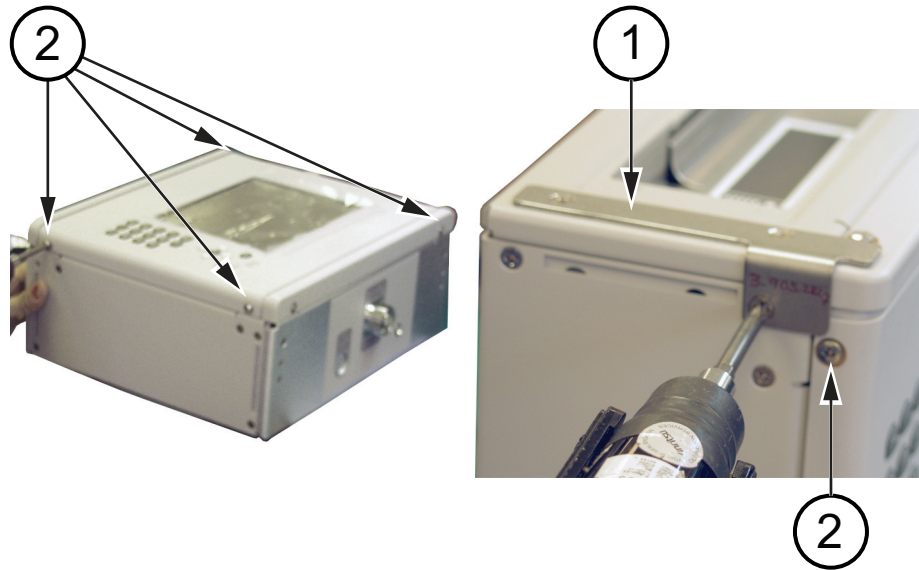

Figure 5-16. Remove the Front Panel Screws
6. Remove the corner brackets from the bottom of the instrument (see item 1 in Figure 5-16). Temporarily return 2 screws to hold the bottom panel in place. The corner brackets are secured with 3 screws each, size M4, 12 mm, flat head. Reassembly torque is 1.5 N · m (13 lbf · in).
7. Remove the 8 screws retaining the front panel, 2 screws from each corner (see item 2 in Figure 5-16). The screws are size M4, 10 mm, pan head. Reassembly torque is 0.7 N · m (6 lbf · in).